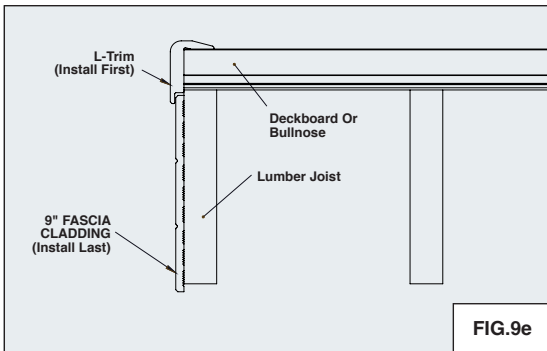

FIG.9e
- Insert the upper edge of the fascia cladding under the L-Trim and fasten cladding to lumber with screws as required. Pre-drill and slot holes in fascia cladding as required to allow for expansion/contraction. (REFER TO FIG.9e)